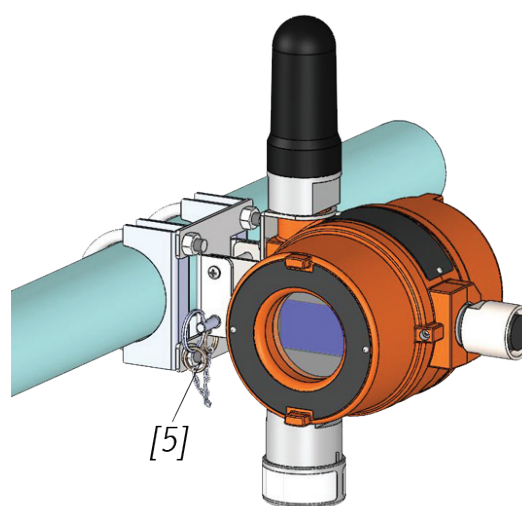

Figure 14
7. Push attached pin [5] through bottom holes to secure device to the bracket (see Figure 14).